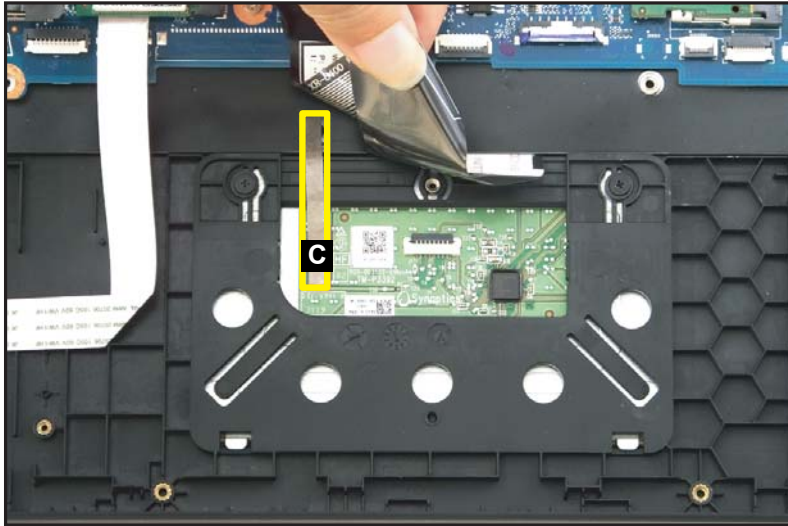

Figure 1-26. Touchpad Module Removal
3. Peel off and remove the touchpad conductive tape (C) from the touchpad module and top assembly (Figure 1-26).